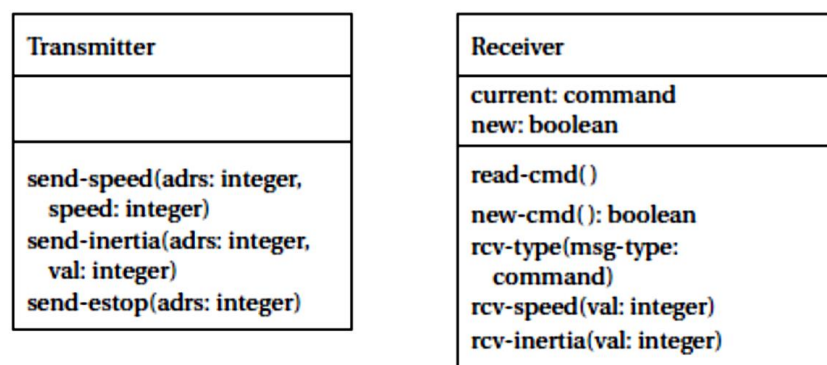

FIGURE 1.22
- Figure 1.22 shows a class diagram for these classes; this diagram shows a little more detail than Figure since it includes attributes and behaviours of these classes.
- ✓ The *Transmitter* and *Receiver* classes are shown in Figure 1.22 they provide the software interface to the physical devices that send and receive bits along the track.